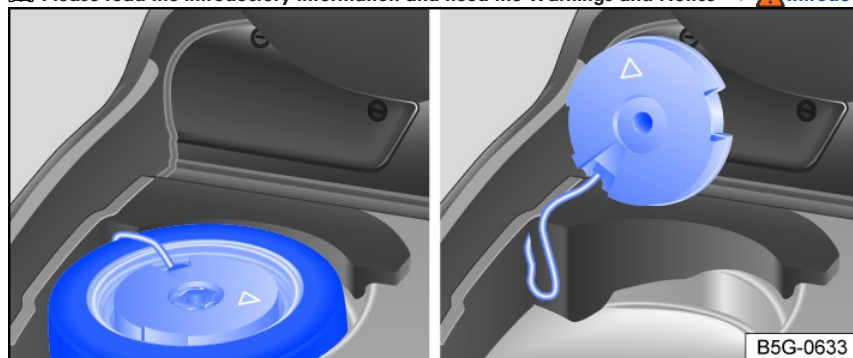

Fig. 202 Removing the subwoofer.
4. Lift out the subwoofer and lean it against the side panel of the luggage compartment, ensuring that the subwoofer cannot tip or fall *fig. 202*.